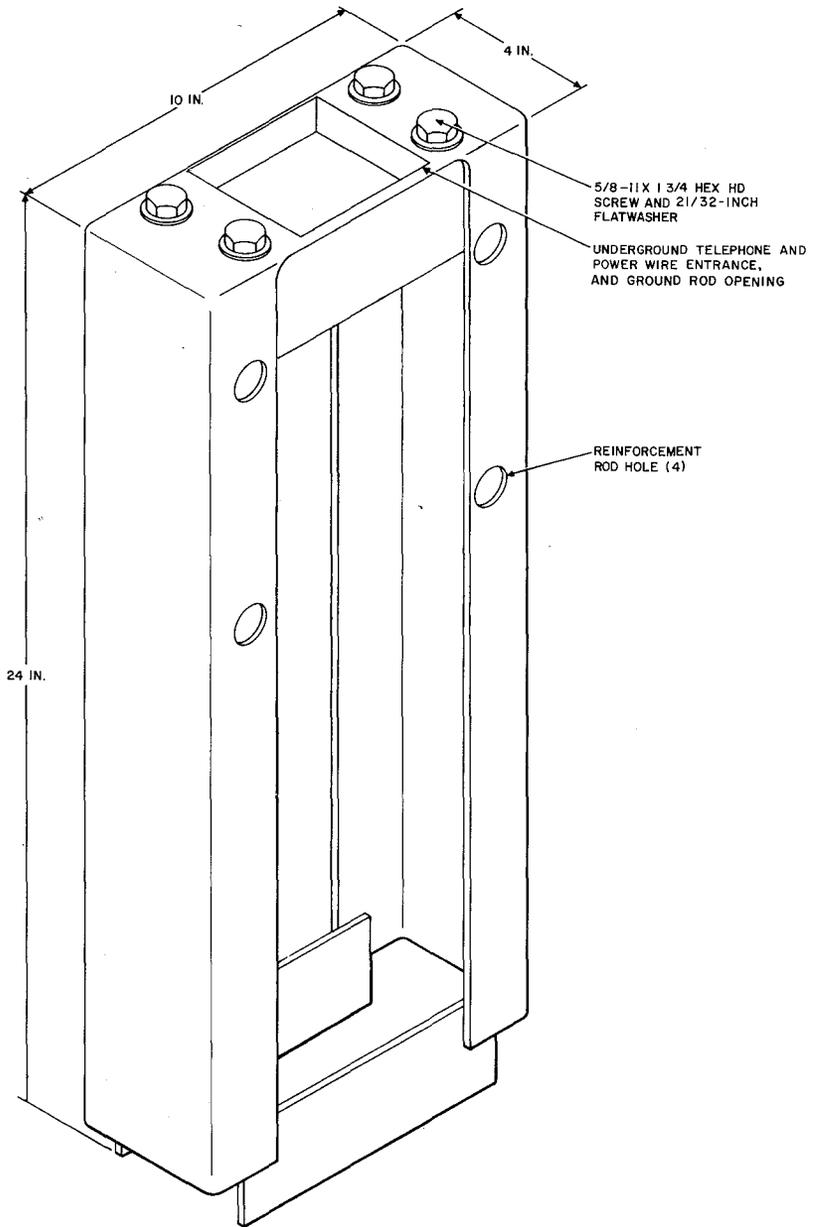

Fig. 16—List 52 Buried Base
**KS-20842, List 52 Buried Base (Fig. 16)**
- (1) It is recommended that all new concrete foundations utilize a List 52 buried base assembly where possible (Fig. 16 and 24).
### 3.06 List 52 Buried Base Assembly (Fig. 16):